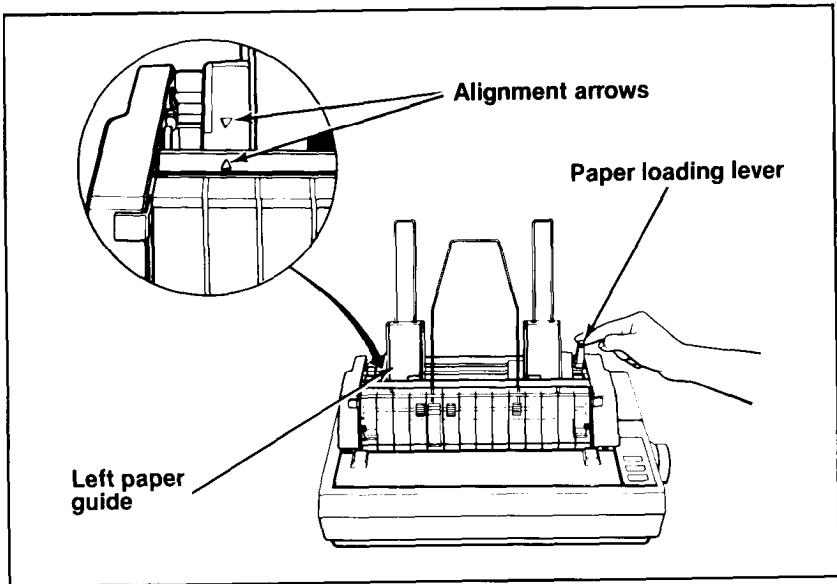

Figure 2-6. Paper support and paper loading lever
1. Align the arrow on the left paper guide with the arrow stamped into the metal lip of the stacker, as shown in Figure 2-6.
2. Pull the paper loading lever forward until it locks in the open position, as shown in Figure 2-6.